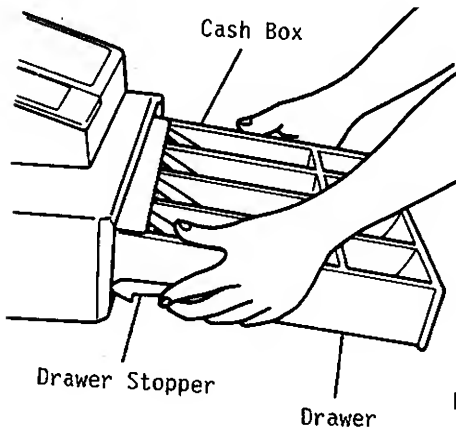

Fig. 2
- 1) To remove the drawer, lift it up by the stoppers attached on both sides and pull it out. (Fig. 2)
- 2) When installing the drawer, fit its rollers onto the rails of the register and push it all the way in. (Fig. 2) The coin case can be removed from the drawer, by lifting it up at the front.